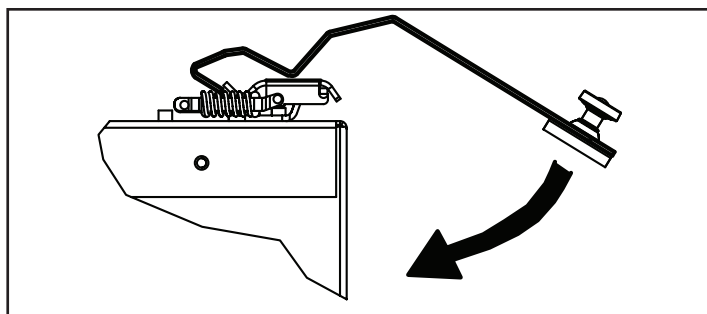

Figure 34 - Latch Opener
3. Hook opener over latch as shown in Figure 34. Swing the bottom of the opener down toward the door. You will not need to pull down.